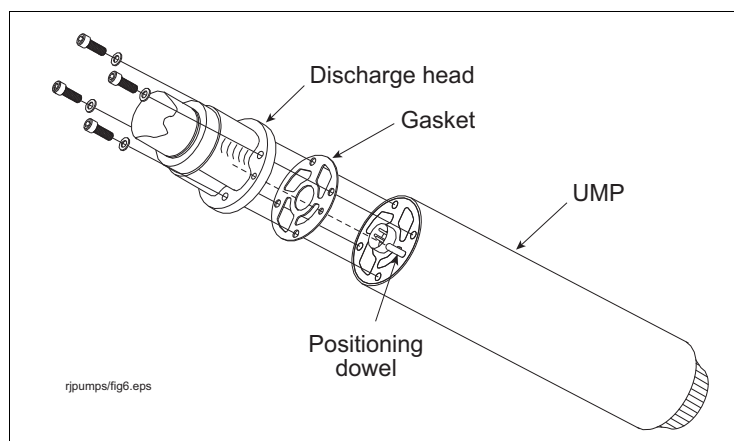

Figure 7. Aligning The UMP Gasket
- Place the new gasket on the new UMP so that all holes align (see Figure 7).
- Install the UMP retaining bolts and lock washers (see Figure 7). Snug and then torque the bolts using a cross pattern. Torque to 7 ft-lbs (11 N•m).